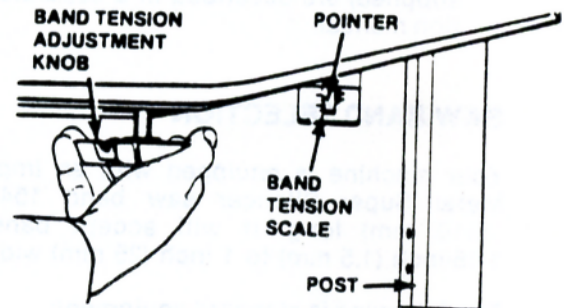

FIG. 11. ADJUSTING BAND TENSION.
- (1) Follow "Band Removal" instructions to prepare machine to receive a new band.
- (2) Remove new band's protective Saw Cap. Then: (a) Place new band carefully around wheels and between saw guide inserts; (b) Band's center should follow center of wheels with crowned rubber tires.
- (3) Close wheel doors. Then: (a) Apply band tension to that recommended by tension scale by turning knob below head -- refer to Fig. 11 on page 7; (b) Tighten saw guide inserts; (c) Reposition and secure saw slot cover bar; (d) Secure post and column band guards.
- (1) Apply band tension by turning knob located below machine head.
- (2) A scale showing recommended tension for various band widths is located right of knob as shown in Fig. 11. Scale numbers represent recommended tensions for common band gages and pitches most likely to be used when sawing.